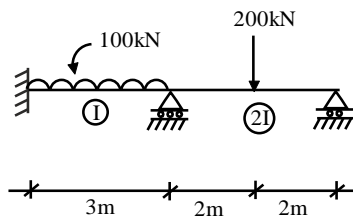

Fig. 9
11. Analyse the beam shown in fig 9 by flexibility method and draw BMD. 13